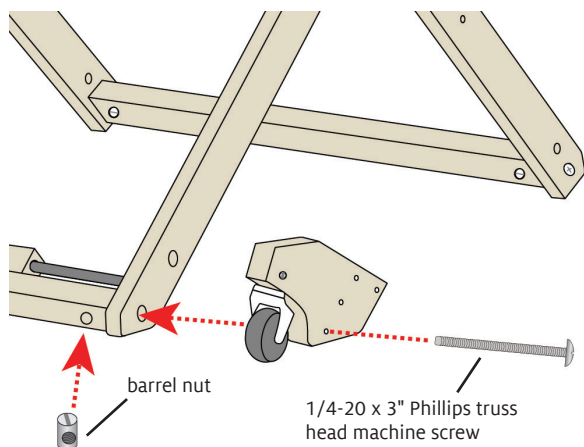

FIGURE 15: ATTACH FRONT STROLLER BLOCK TO TREADLE SUPPORT
19. Insert a 1/4-20 x 3" Phillips truss head machine screw through the bottom hole of the stroller block, then partway through the leg (Figure 15). Insert the barrel nut from step 17 into the treadle support, holding it in place with a slotted (flat) screwdriver. Fully tighten the screw into the barrel nut.